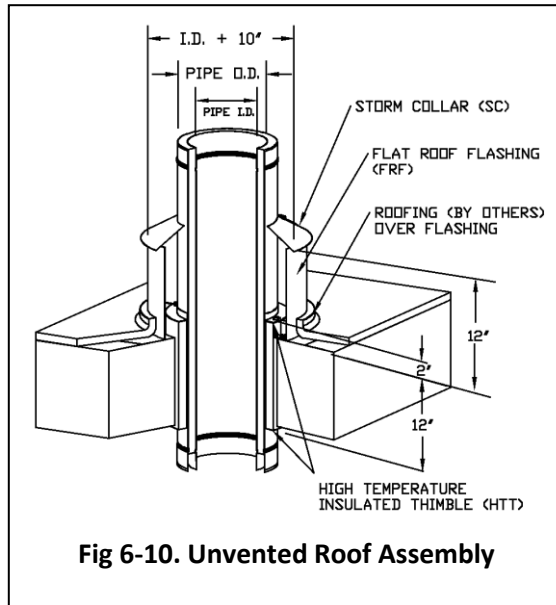

Fig 6-10. Unvented Roof Assembly
UL has determined the Roof Thimble (HTT) alone, without ventilation, provides a safe installation through a combustible roof for Model DWCK applications with 1000°F flue gases or less. This also applies to enclosed Special Gas Vents, Type B Vents, and Type L Vents. In this manner, the Flat Roof Flashing (FRF) in conjunction with the standard Storm Collar (SC) is used. (See Fig 6-10).